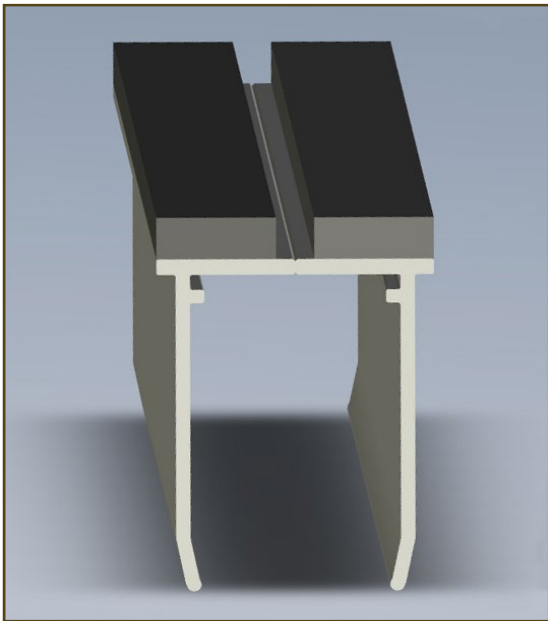

Figure 7. Ceiling Track enhancement
3. One (1) layer of $\frac{1}{8}$ " thick x $\frac{1}{2}$ " wide (3mm x 13mm) CSF tape applied continuously to top of Ceiling Track on both sides of track centerline. See Figure 7 below. Fill Ceiling Track void with batt insulation.